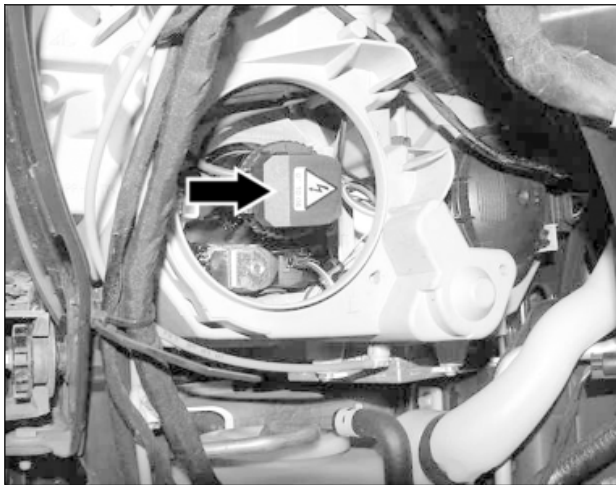

Figure 2
- 7.5 Twist plug on burner to the left and remove (Figure 2, arrow).